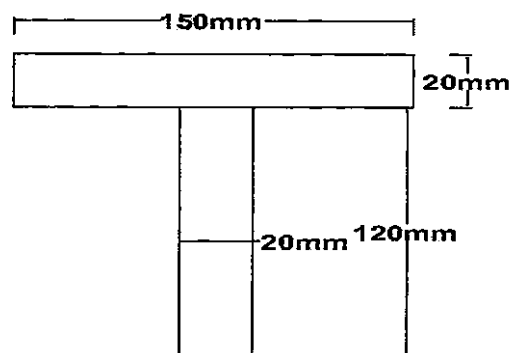

Fig. 9
7. (a) A T section  $150 \text{ mm} \times 120 \text{ mm} \times 20 \text{ mm}$  is used as a strut of 4 m long with hinged at its both ends. Calculate the crippling load, if Young's modulus for the material be 200 Gpa. (Refer Fig. 9) : [6]